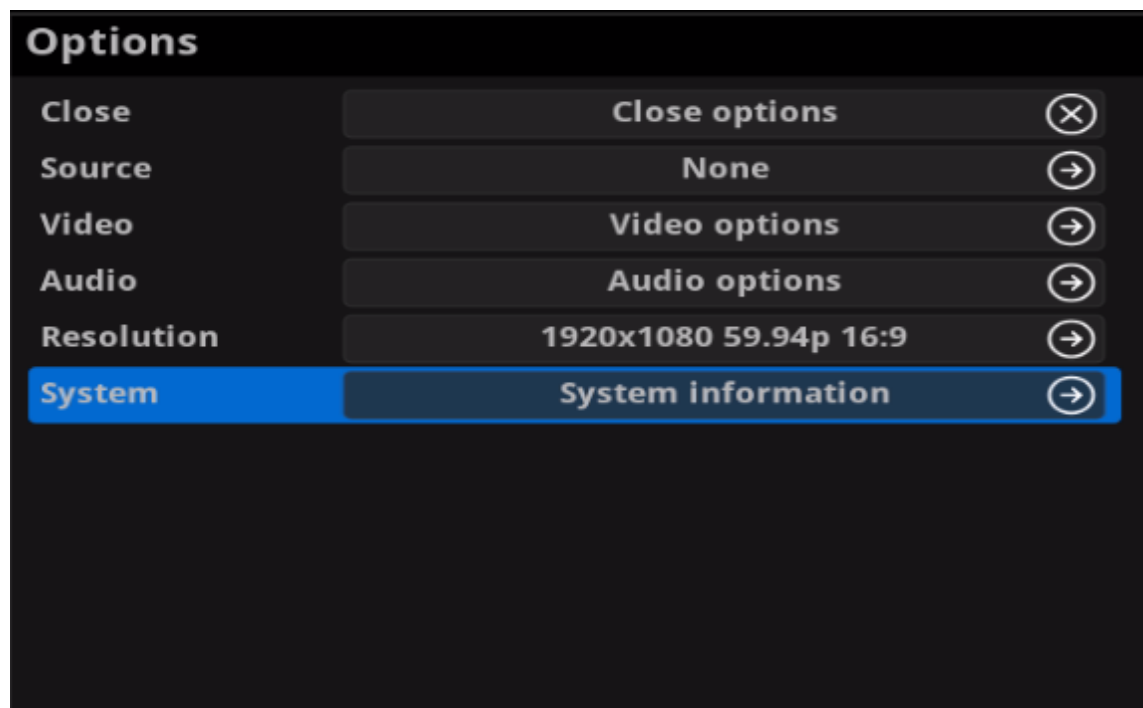

Figure 1 Select System in Options menu
- Step 1** Connect your decoder via Ethernet, power it up and connect a presentation device as shown in the Figure1. Connections.